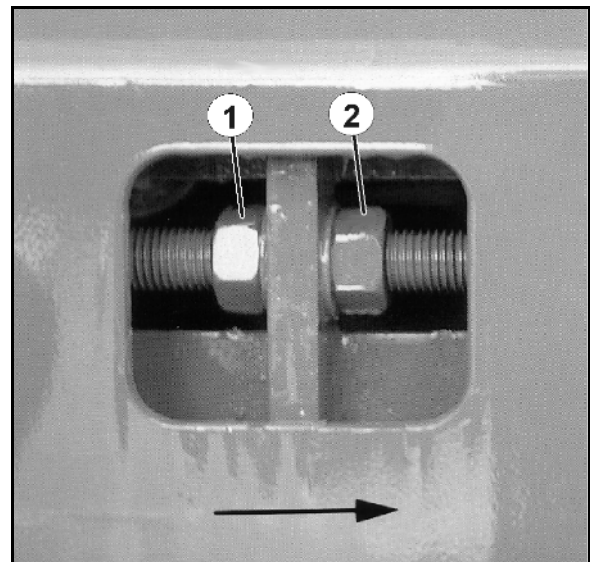

Fig. 117
1. Loosen the rear lock nuts on both sides when viewed in the direction of travel (see arrow) (Fig. 117/1) by turning them anti-clockwise.
2. Turn the nuts on both sides evenly to the left when viewed in the direction of travel (see arrow) (Fig. 117/2).
The adjustment travel of the nuts (Fig. 117/2) must be equal on both sides of the floor belt. Do not turn either nut (Fig. 117/2) more than a ½ spanner turn. Tighten the lock nuts and check whether the belt conveyor is driven evenly again.